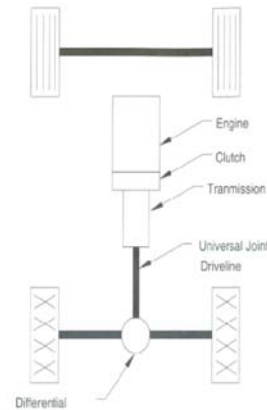

FIGURE 6.1
- Assume that a mechanical transmission has four gear meshes. (Refer Fig 6.1)